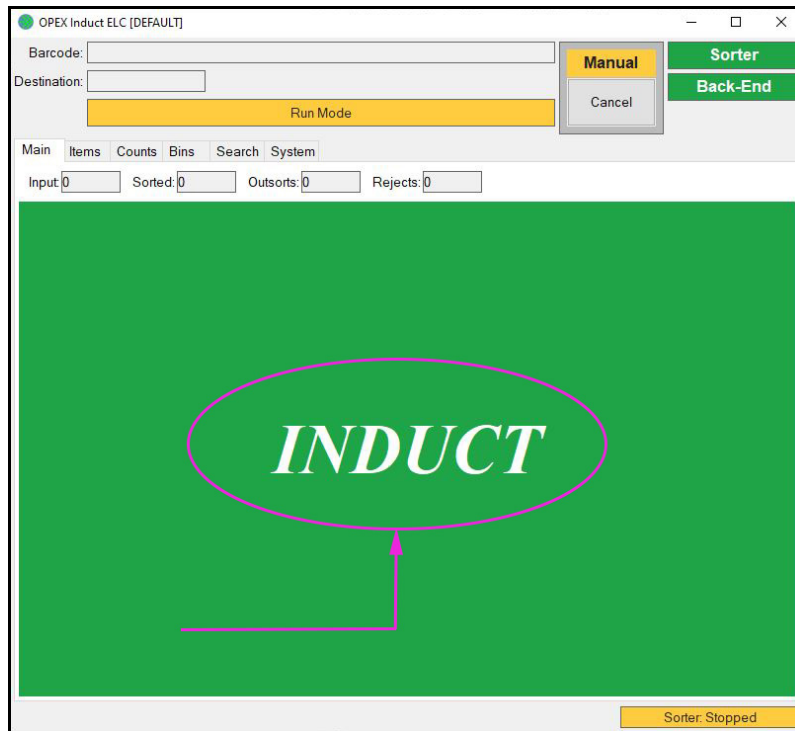

Figure 4-37: OPEX Induct ELC Screen - Read Successful
4. Check the screen of the OPEX Induct ELC. If the read was successful, it will be green and display “INDUCT” (see Figure 4-37).